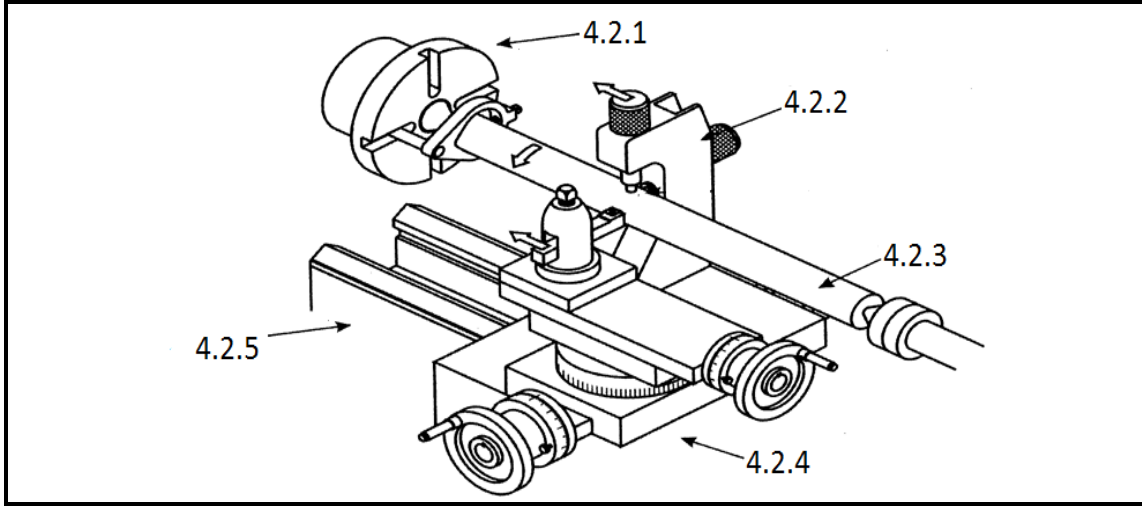

FIGURE 4
4.2 FIGURE 4 shows a machining process that can be performed on a centre lathe.
4.3 Name FIVE machining processes that can be performed on the machine shown in FIGURE 4.